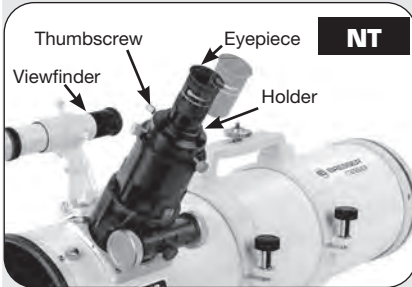
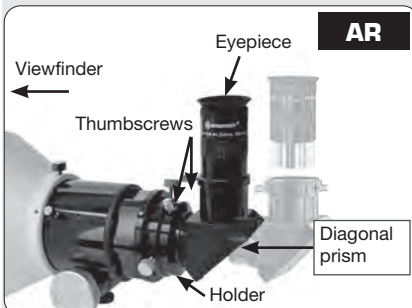

Fig. 10a: Insert eyepiece into holder and tighten thumbscrews.
Fig. 10b: Insert eyepiece into diagonal prism and tighten thumbscrews.
10. Insert the eyepiece: NT models (Fig. 10a): Lift to remove the dust cap from the eyepiece holder on the focuser assembly. Set the dust cap aside in a safe place and replace it when you have finished observing to protect the eyepiece assembly. Back off the eyepiece thumbscrews (1, Fig. 1a) and insert the supplied 25mm eyepiece (3, Fig. 1a) into the eyepiece holder. Tighten the holder thumbscrews to a firm feel to secure the eyepiece. AR models (Abb. 10b): Lift to remove the dust cap from the eyepiece holder on the focuser assembly. Set the dust cap aside in a safe place and replace it when you have finished observing to protect the eyepiece assembly. Back off the eyepiece thumbscrews (1, Fig. 1b) and slide the diagonal prism into the holder and tighten the thumbscrews to a firm feel only. Insert the supplied 25mm eyepiece (3, Fig. 1b) into the diagonal prism. Tighten the prism's thumbscrews to a firm feel to secure the eyepiece.